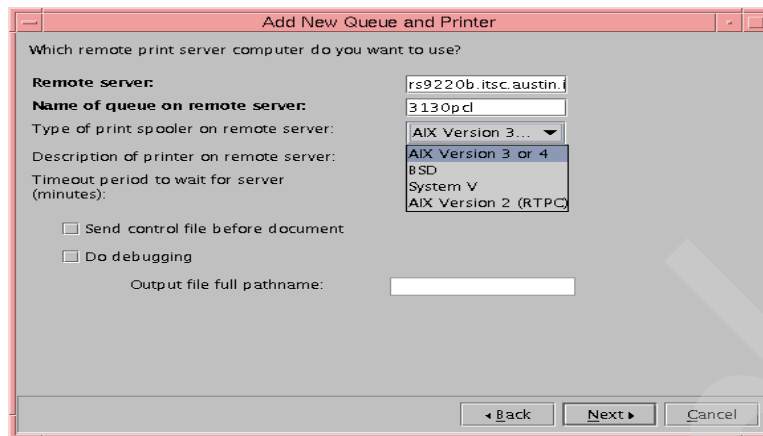

Figure 63. Remote server information
4. We selected **remote**, since the printer is attached to a remote RS/6000, and clicked **Next**. The panel in Figure 63 on page 278 is shown. Click **Finish**.
5. In the panel shown in Figure 63, we entered the hostname of the remote server, the name of the print queue that was already defined on that remote server, and the type of spooler used by the remote server; since the remote server was running AIX, we selected **AIX Version 3 or 4**. (See “Type of print spooler on the remote server” on page 274 for additional information.) We did not set a timeout value for `rembak` but let it default to 90 seconds. We chose not to send the control file before the data file. After entering all these values, we clicked on **Next**.